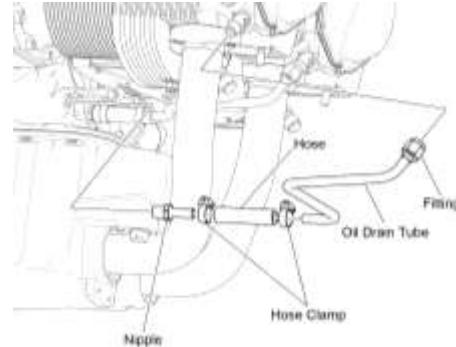

Figure 12
- (1) Remove the hose clamps (Figure 12) from the hose attached to the oil drain tube assembly.
- (2) Disconnect the hose from the nipple.
- (3) Disconnect the drain tube fitting from the engine cylinder.
- (4) Remove and discard the hose.
- (5) Remove the oil drain tube assembly from the cylinder.
- (6) Examine the oil drain tube for cracks or damage.
- (7) Replace a cracked or damaged drain tube assembly.